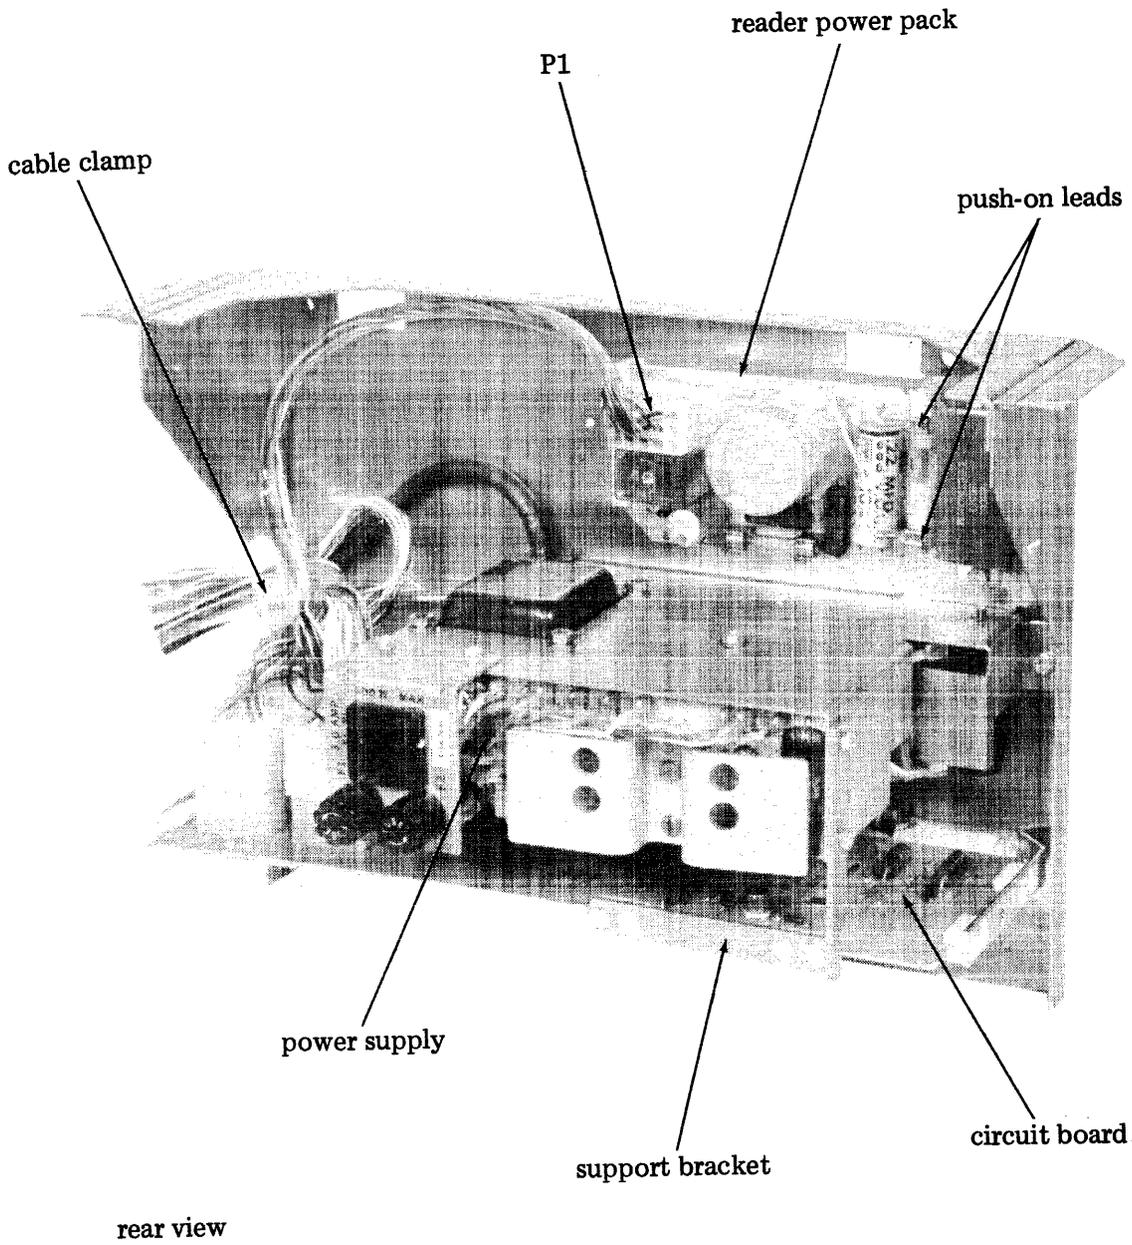

Figure 1 - Electrical Service Unit
2.01 Disassemble reader power pack (Figure 1) as follows:
2.03 Disassemble power supply and circuit board (Figure 1) as follows: